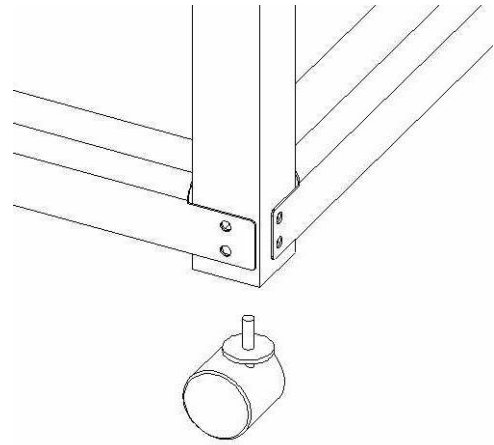

FIGURE 6
- 1- Remove the two (2) casters from carton.
- 2- While lifting the right side of cart chassis, carefully align and tighten one (1) caster, into the caster mounting bracket, located on the bottom of each leg, on the bottom right side of the cart chassis base frame. (SEE FIGURE 6)